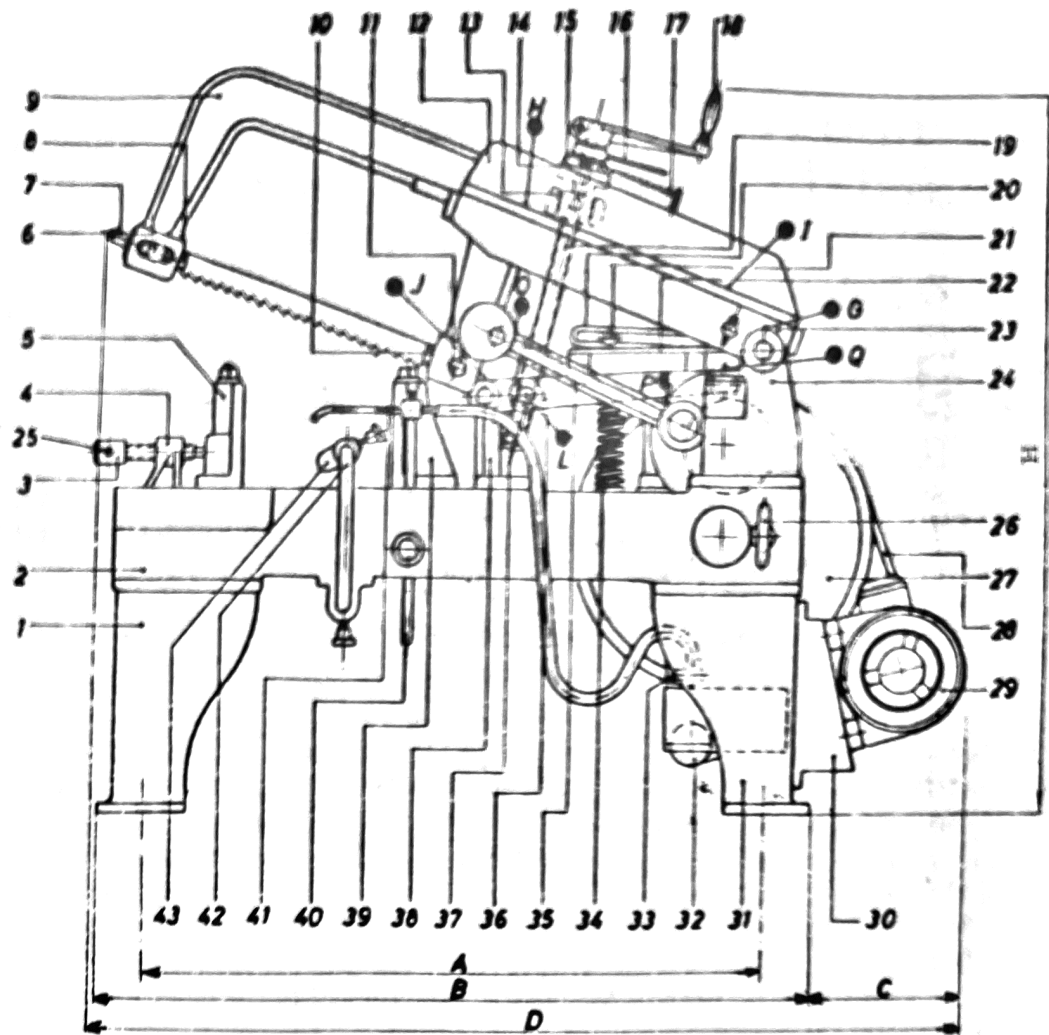

Fig. 2 Side Elevation
- 3 Part Number and Description as identified from Figs. 2, 2b, 3, 5, 6 and 7 and key to part numbers.
The foundation for the machine should be prepared to the dimensions given in Table and Figs. 2 and 2a for the appropriate model of machine.